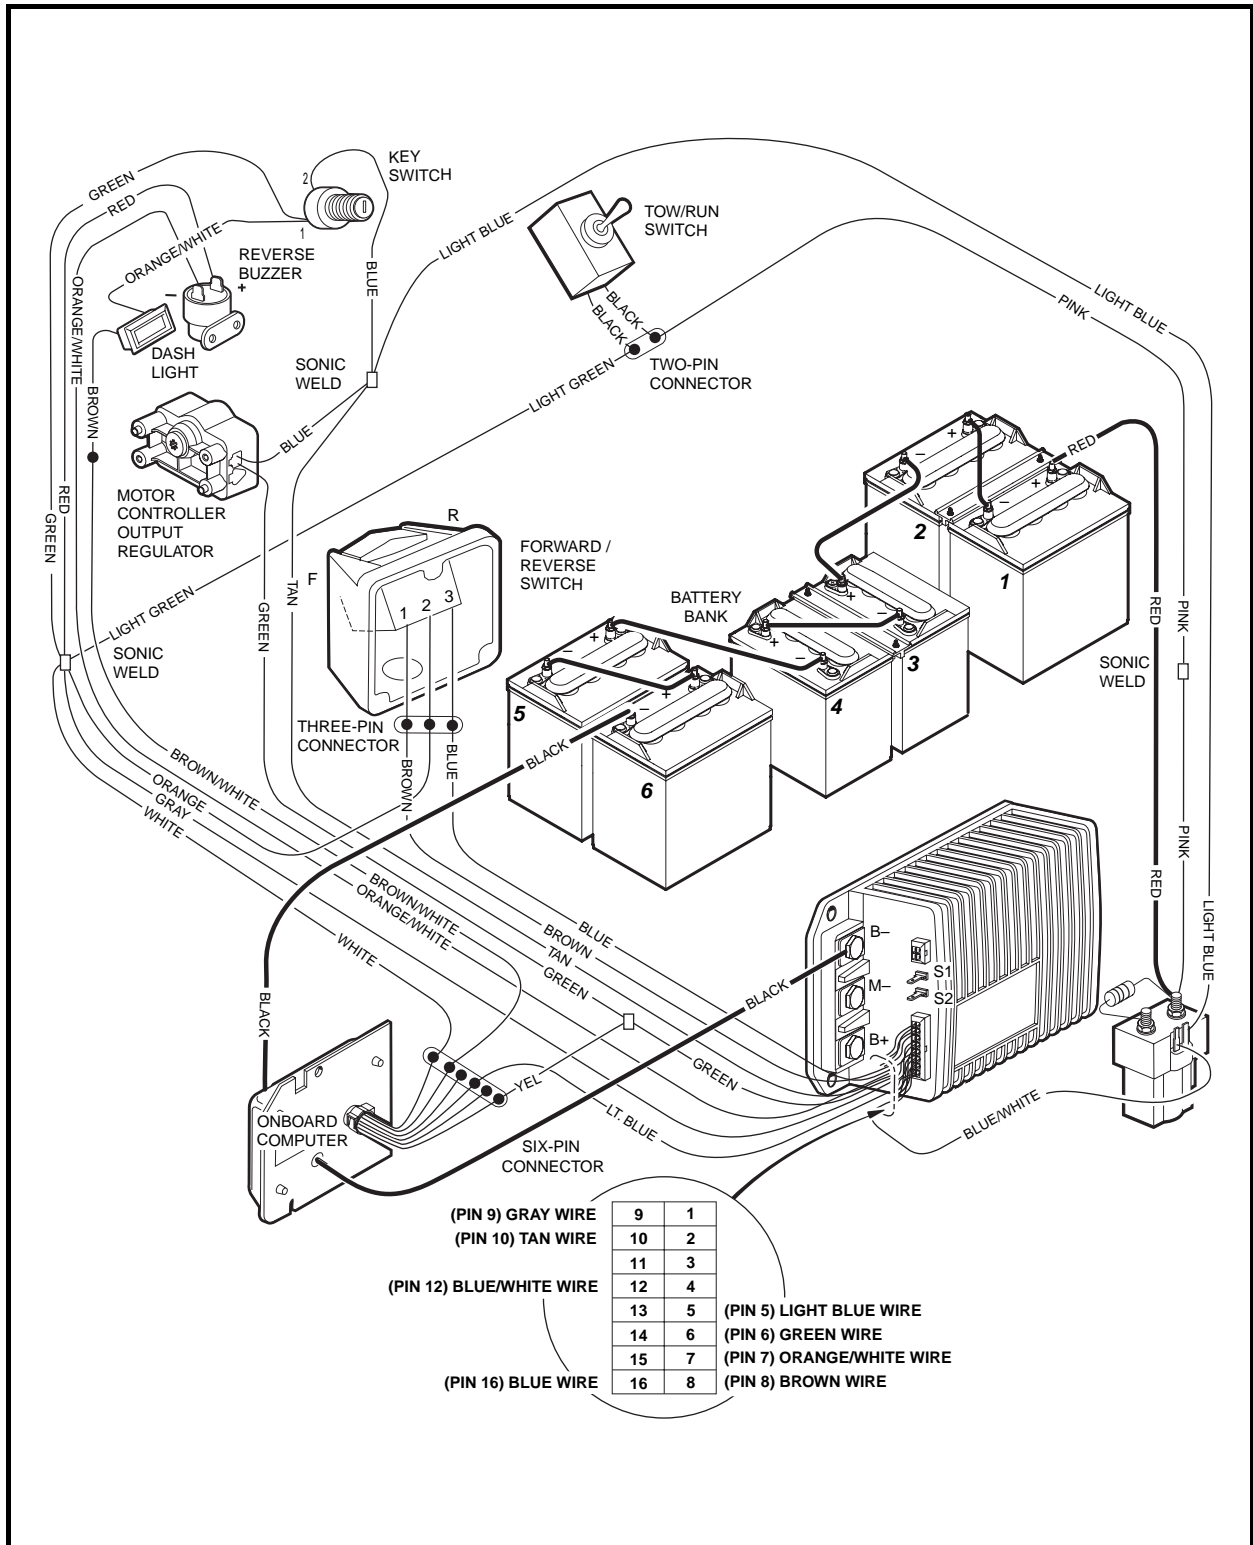

Figure 11-3 Tow/Run Switch Circuit
- Tow/Run switch circuit (**Figure 11-3, Page 11-7**).